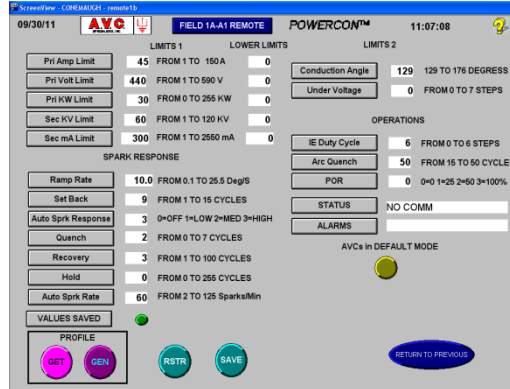

Fig 7
- Click on CHANGE VALUES and the screen will change to appear as shown in Figure 7.